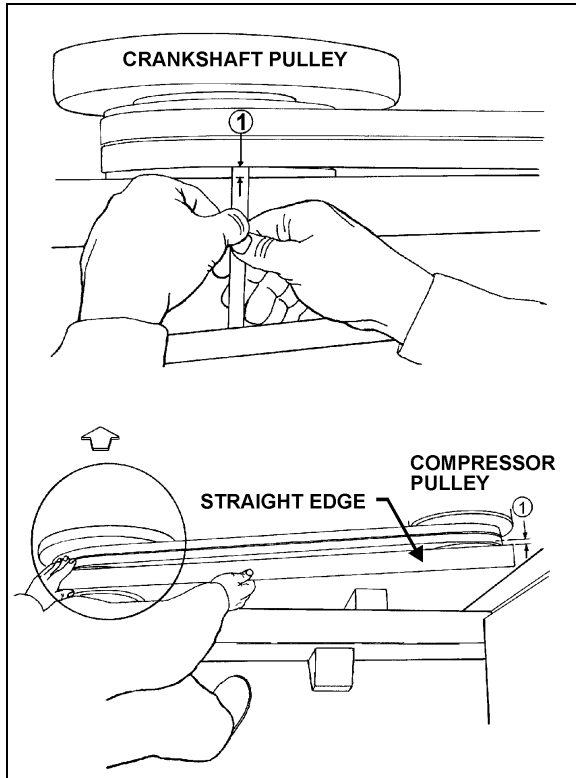
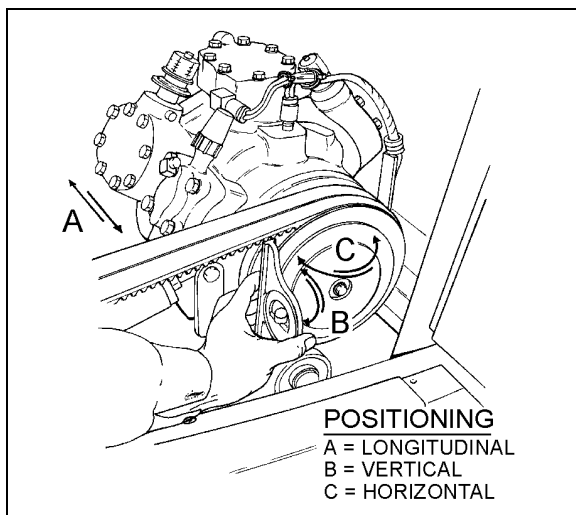

FIGURE 22: COMPRESSOR ALIGNMENT 22040
FIGURE 23: COMPRESSOR ALIGNMENT 22072
After belt replacement or during normal maintenance, belt play between pulleys and belt must be checked to ensure proper operation. Refer to Figure 22 for proper plays.
compressor clutch pulley (Figure 22 & Figure 23).
2. Check the distance between each extremity of straight edge (1, Figure 22) and the first drive belt. If they are different, loosen the compressor support bolts and with a hammer, knock support to slide it in order to obtain the same distance; then tighten bolts.
2. Check the distance between each extremity of straight edge (1, Figure 22) and drive belt. If they are different, loosen the pillow block compressor bolts and with a hammer, knock compressor pillow block to slide it, in order to obtain the same distance; then tighten bolts.
Rest a short "angle and level indicator" on the outer side face of the crankshaft pulley, adjust the level indicator inclination at 0° and check if the compressor pulley is at same angle (Figure 22 & Figure 23). If it is not the same, shim under the appropriate pillow block in order to obtain the correct angle.